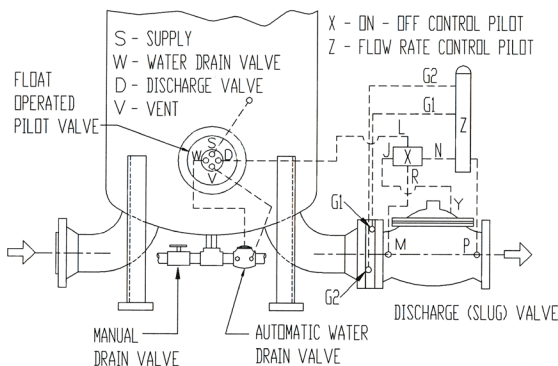
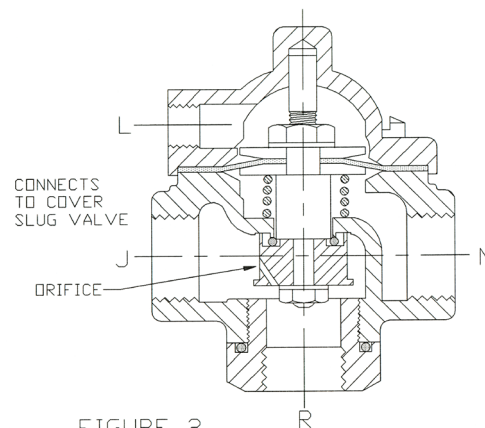

FIGURE 1
FIGURE 2
In Fig. 1, there are two pilot valves shown, X and Z. X is an On-Off pilot valve and the other (Z) controls the rate of flow. Watts\*, Smith and Oil Capital make On-Off pilot valves that are similar. Each requires a pressure signal to cause the slug valve to open. A pilot of this type is shown in Fig. 2 in the closed position. Note that pressure from the supply port M is directed to Y, the cover of the slug valve, to close it. In other words, pressure from M goes through port R, then port J and to port Y on the cover. If control pressure from the float operated pilot valve is applied at port L to open the on-off pilot, the slug valve cover is vented through ports Y, J and N of the on-off pilot into port P. The slug valve then opens because system inlet pressure at M is greater than outlet pressure at P.
The Cla-Val system is exactly the same, except that the On-Off pilot (Fig. 4) works in the reverse of the one in Figure 2. In the position shown, control pressure is being applied at L. Supply pressure at R goes through J and directly to the slug valve cover through port Y to block fuel flow through the main (slug) valve. To open the slug valve, L must be vented so that pressure at R will lift the diaphragm and close port H. The orifice then supplies "pilot" flow and all other functions are the same as described for other brands. The slug valve cover is vented through port J to N and then to P.
When slug valve problems occur, our experience has been that diaphragm failures are the primary cause. These are easy to find. Disconnect the fitting at Y and turn on the pump. Continuous flow from the slug valve cover means a diaphragm failure. A failure of the On-Off pilot diaphragm in Figure 2 can be detected by disconnecting the fittings at N and L. Apply pressure at N and look for leakage at L. A failure in the rate of flow pilot diaphragm is found by disconnecting one of the orifice pressure fittings, G1, or G2. Leakage indicates failure of the diaphragm.